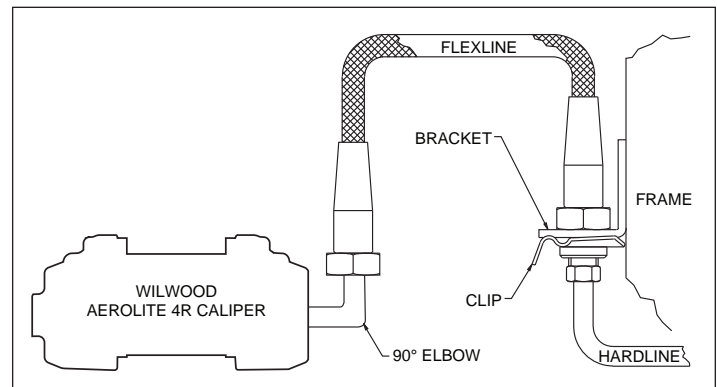

Figure 5. Brake Line Diagram
- **NOTE:** The caliper in this brake kit utilizes a 1/8-27 NPT pipe thread inlet. OEM rubber brake hoses generally cannot be adapted to Wilwood calipers. Install Wilwood's stainless steel braided flexline hose kit, part number 220-8177 for C5, 220-9101 for C6 (both sold separately), as shown in Figure 5. **NOTE:** The specified Wilwood hose kits may not work on all Years, Makes, or Models of the vehicle that this brake kit is applicable to, due to possible OEM manufacturing changes during the vehicle's production life. **Carefully route hoses to prevent contact with moving suspension, brake, and wheel components.** It is the installer's responsibility to ensure that all fittings and hoses are the correct size and length, that they are properly sealed, and that they will not be subjected to crimping, strain, or abrasion from vibration or interference with suspension, brake, or wheel components.